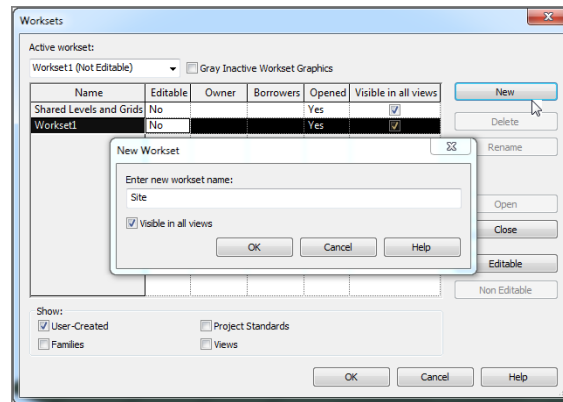

FIGURE 22.9: Creating a new workset
2. In the Worksets dialog, click the New button, as shown in Figure 22.9.